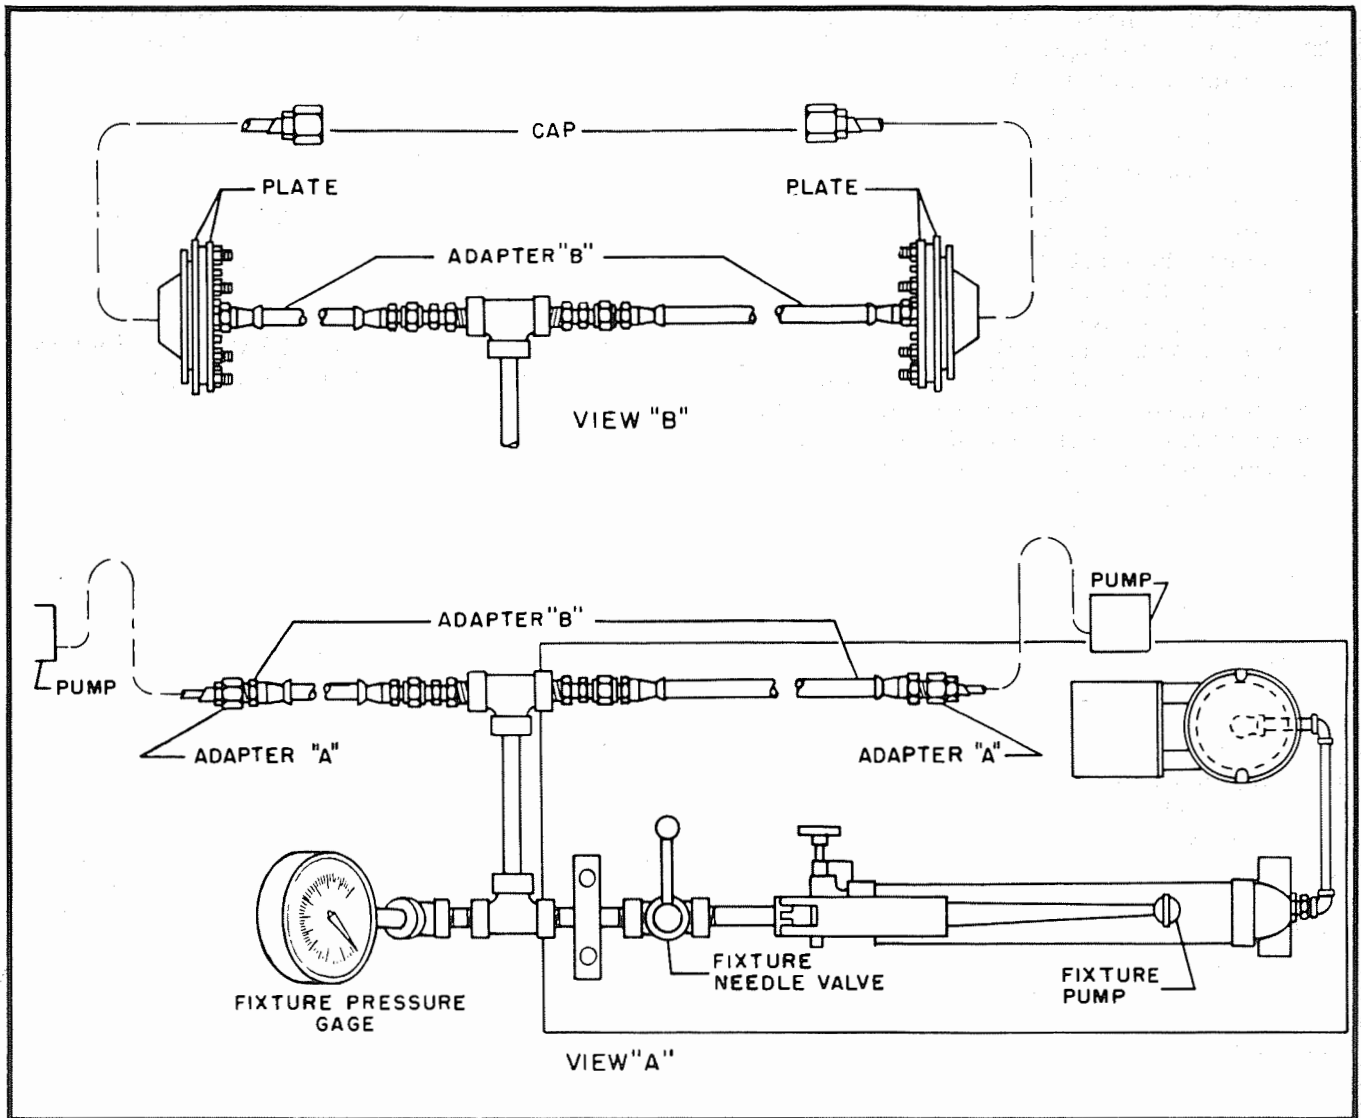

Figure 6-3. Fuel Injection Lines Pressure Leakage Test Equipment
**6-52. PRESSURE TEST WITH TUBES AND PUMPS ON ENGINE.** With the tube assemblies and the fuel injection pumps installed on the engine, a complete individual line check can be made on two lines simultaneously from the tube seal nuts disconnected at the nozzles to and including the adapter flange seals. See figure 6-3, view A, and proceed as follows:
a. Using a 9/16 inch wrench, disconnect the lines at the fuel injection nozzles by removing the connector tube seal nuts. Install an oil seal ring into each adapter 808629 (A) and attach the connector tube seal nuts of each of the two lines to be tested to an adapter (A). Use a 9/16 inch and a 3/4 inch wrench.
b. Attach each adapter (A), with tubes, to one end of an adapter 807514 (B) and, using a 3/4 inch wrench connect the other end of the adapter (B) to hydraulic fixture 807070.
**6-53. PRESSURE TEST OF TUBES WITHOUT PUMPS ON ENGINE.** With the tube assemblies installed on the engine and the pumps removed, a complete individual line check can be made on two lines simultaneously from the pump ends of the lines to the nozzle ends, the nozzle connector tube seal nuts being capped. See figure 6-3, view B, and proceed as follows: